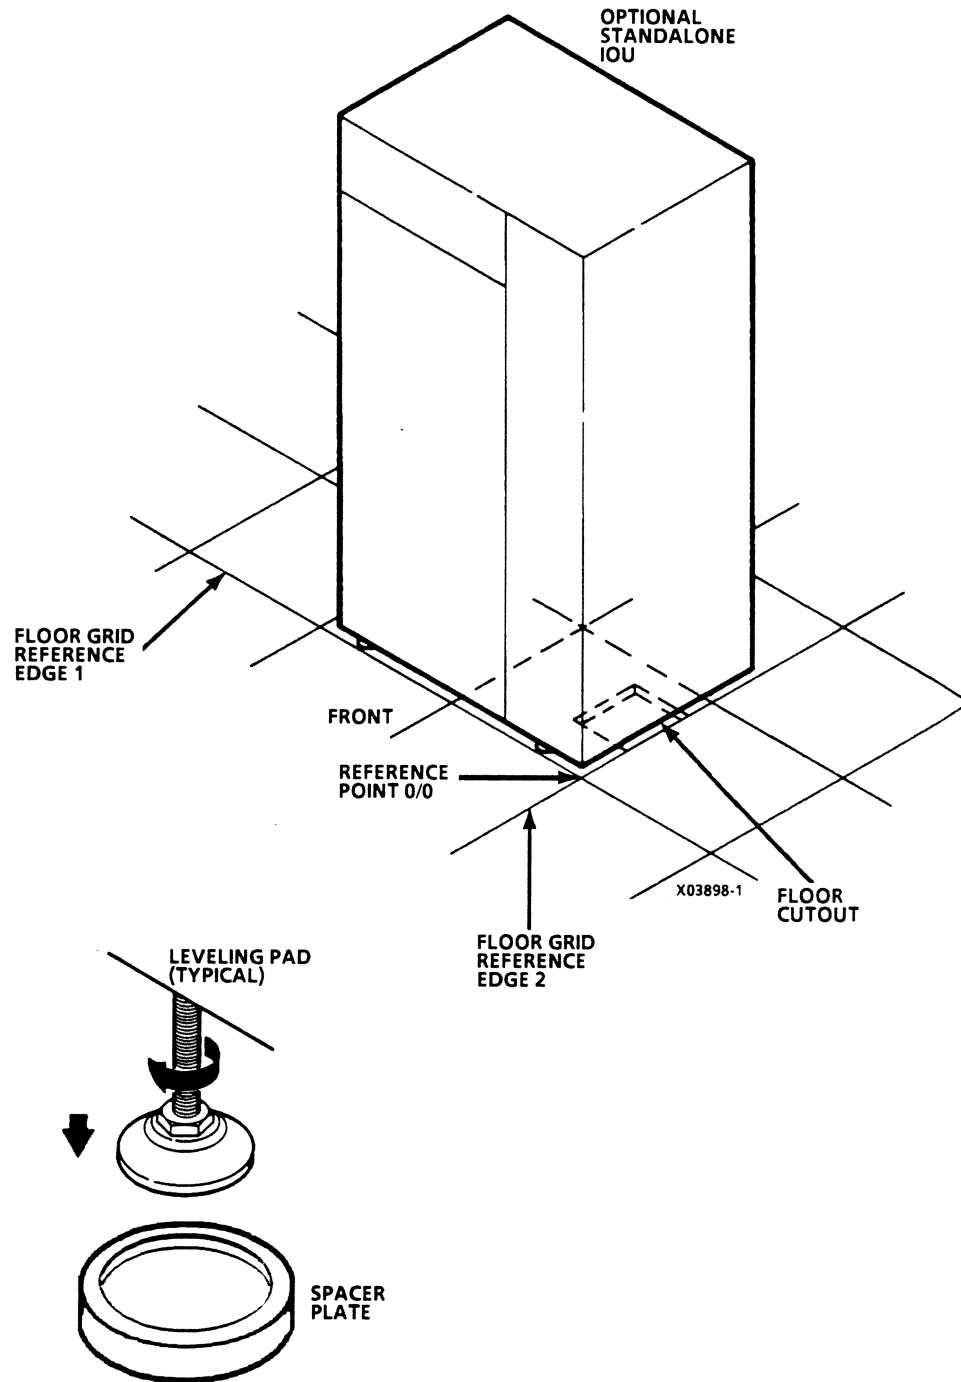

Figure 2-13. Optional Standalone IOU Placement
- ___ 1. Be sure that site preparations have identified optional standalone IOU floor reference point 0/0 (figure 2-13).